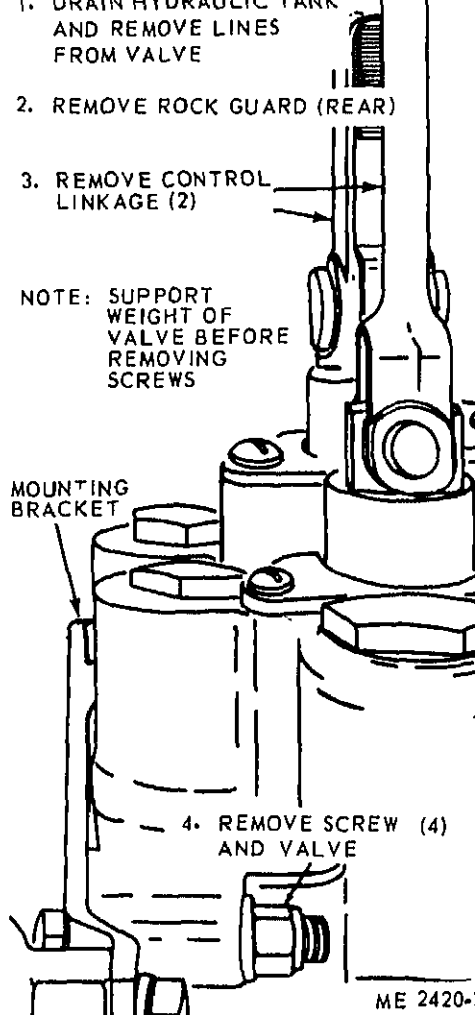

Figure 4-37. Bulldozer hydraulic valve, removal and installation.
(1) Remove screws that secure floorplates, remove floorplates.
(2) Remove bulldozer hydraulic valve as illustrated in figure 4-37.
(1) Install bulldozer hydraulic valve as illustrated in figure 4-37.
(2) Install floorplates.